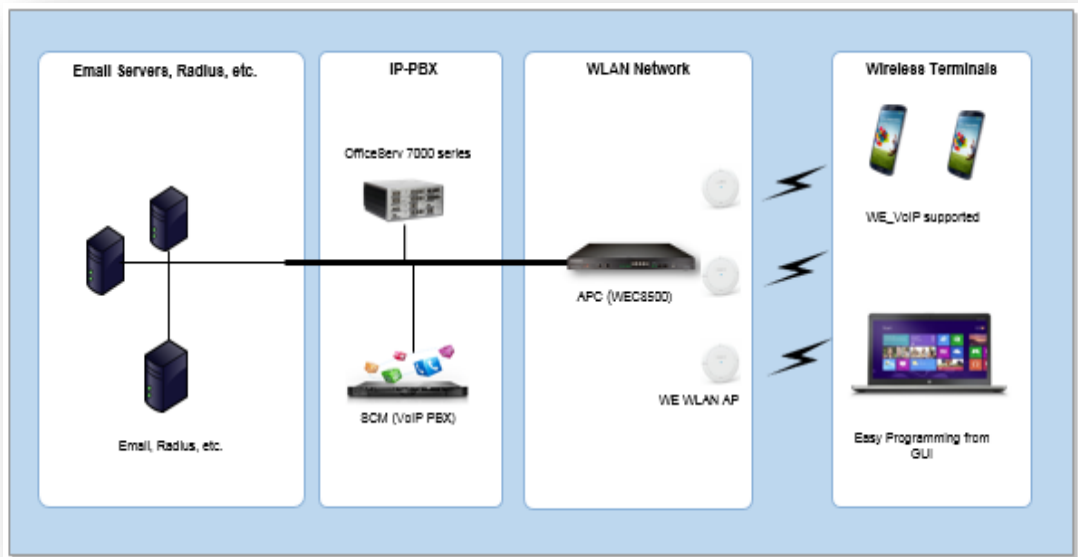

Figure 1. WE System Structure Diagram
The WE solution collectively means that a variety of enterprise applications provided by wireless and wired infrastructure products and wireless terminals as shown in Figure 1. Among them, the WLAN network as a wireless infrastructure solution provides the mobility in the enterprise environment using a WE WLAN Access Point (AP), and AP Controller (APC).